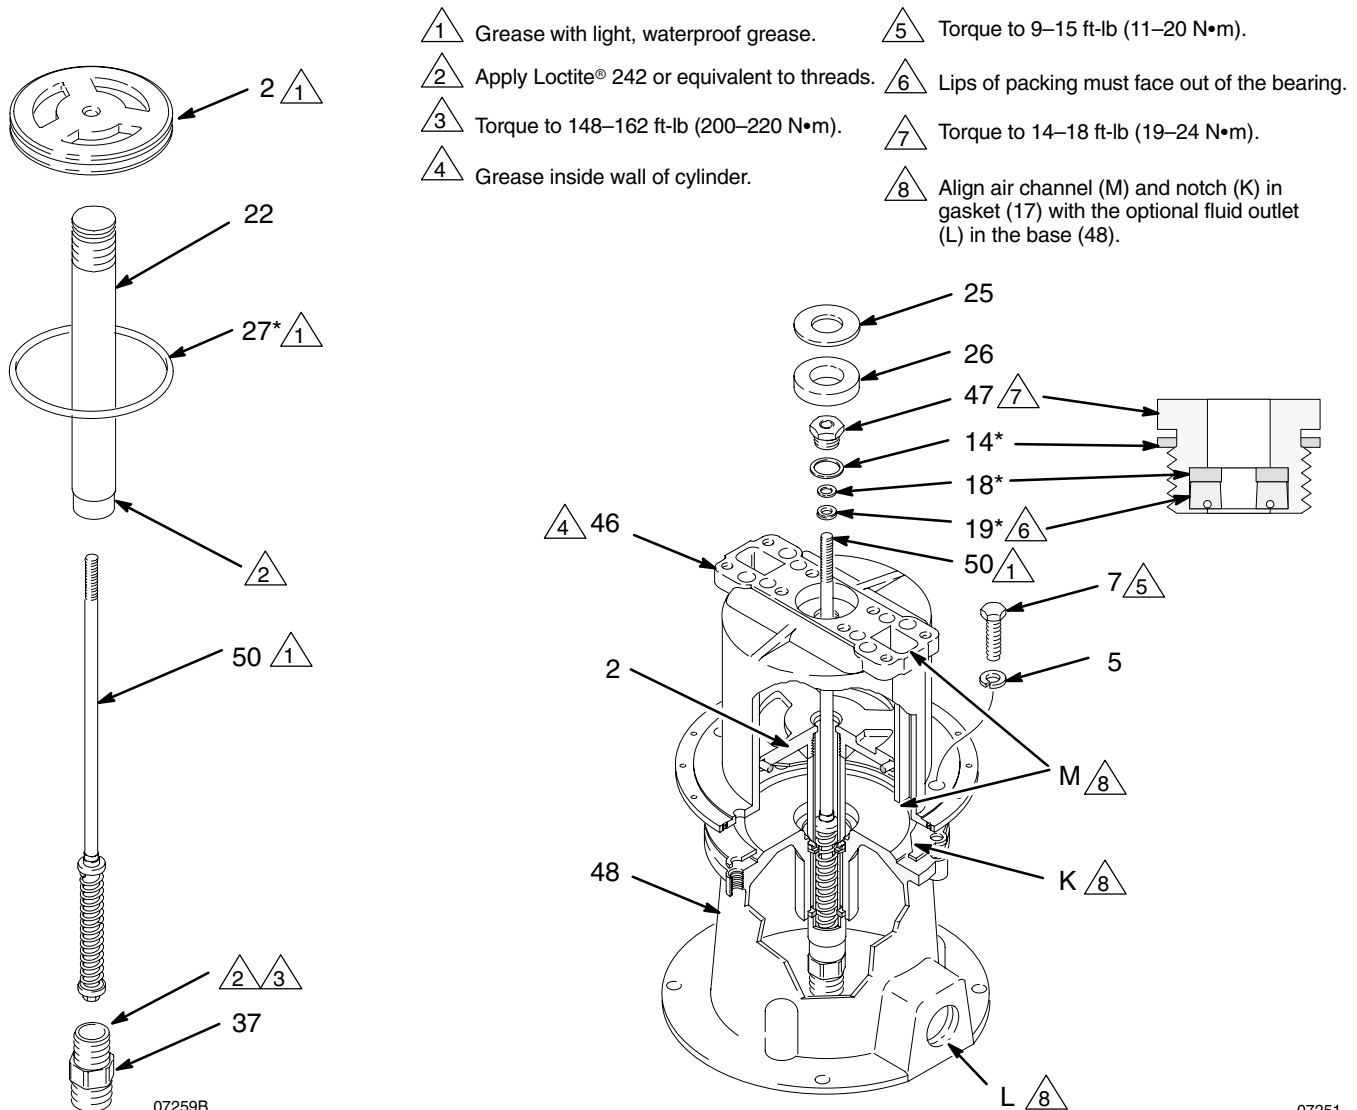

Fig. 8
NOTE: Refer to Fig. 8 for steps 6 to 10.
12. Place the air valve alignment tool (N, order Part No. 168513) on the trip rod (50). Place the gaskets (40*) on the cylinder (46) so the wide end of the slot aligns with the air channel (M). Install the manifolds (43). The air inlet manifold (the one with the open port, P) must align with the optional fluid outlet in the base (L, Fig. 8). Install the screws (4) and washers (5). Remove the tool.